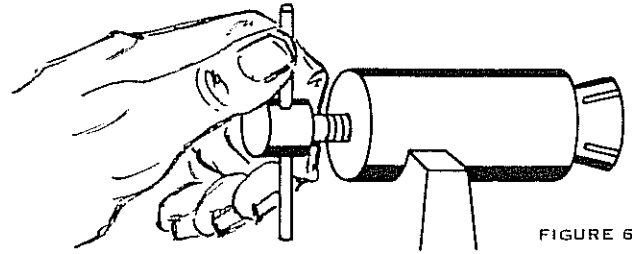

FIGURE 6
- 4 Firmly twist Collet Draw Screw handle to tighten Collet around case head. (Figure 6). This will prevent case from turning during trimming.